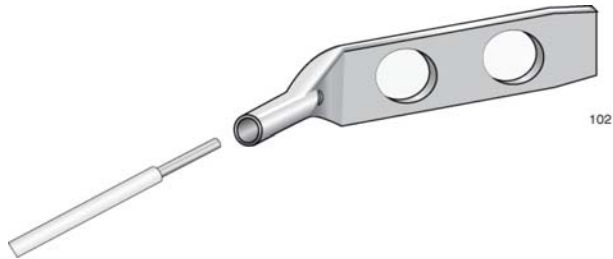

Figure 40. Attaching the Grounding Wire to the Grounding Lug
3. Insert one end of the grounding wire into the grounding lug, as shown in Figure 40, and use a crimping tool to secure the wire to the grounding lug.